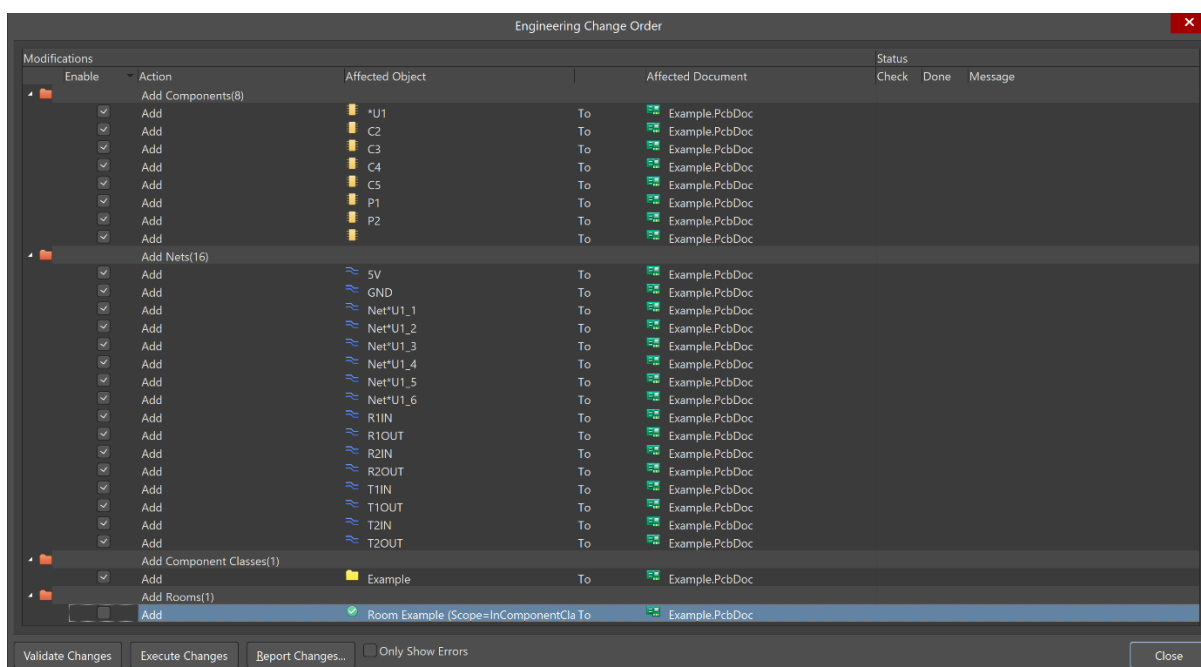

Figure 4: Pop-Up Screen Showing List of Changes to PCB
5. You should see the screen in Figure 4.